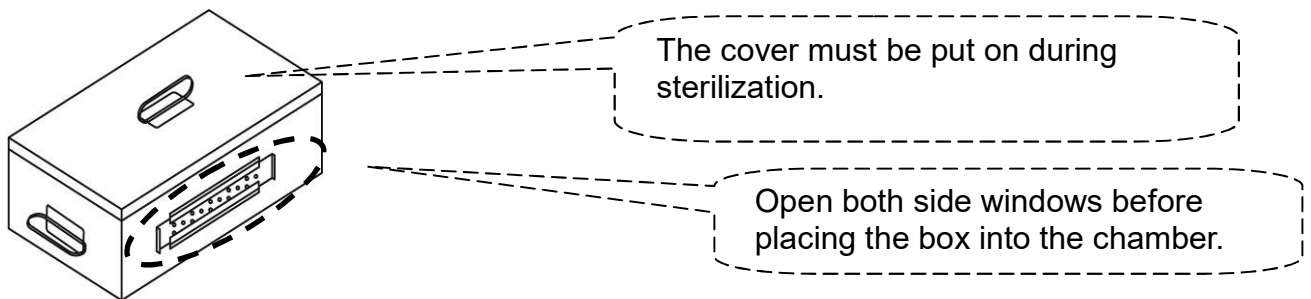

Figure 44
- E. Place the items to be sterilized and the sterilization indicator strips (or biological indicator) into the box as required. Remember to open both side windows before placing the box into the sterilizer as shown in Figure 44. If use the sterilization box.